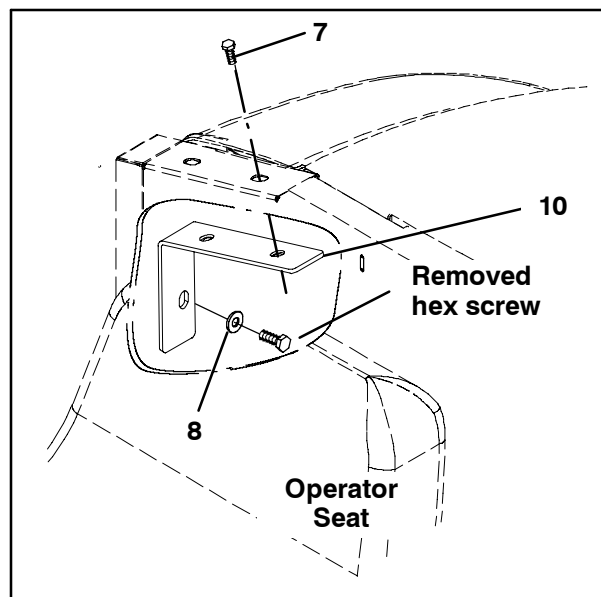

FIG. 4
- Use the hex screw removed in the previous step and a flat washer (8) to install support bracket (10) into the operator compartment. Refer to Fig. 4.
- Use one hex screw (7) to secure the support bracket (10) to the operator compartment. Refer to Fig. 4.